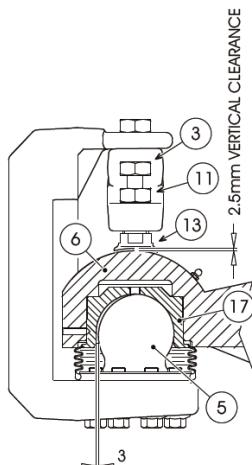

Figure 6.13
- ✓ Rotate the safety cover bar (4) outwards so that it is completely open.
- ✓ Reverse truck very slowly until the ball cup drawbar eye (6) is in position exactly above the drawbar coupling ball (5).
- ✓ Lower the drawbeam until the ball cup drawbar eye (6) lies completely covering the drawbar coupling ball (5).
- ✓ Rotate the safety cover bar back inwards (4) and fit in safety lock screw (2) together with its self-locking nut.
- ✓ Adjust the adjustment screw (3) until a 0.3 - 0.5 mm vertical clearance between the guard disk (13) and the ball cup (6) is reached. Lock setting with counter nut (11) (Figure 6.13).